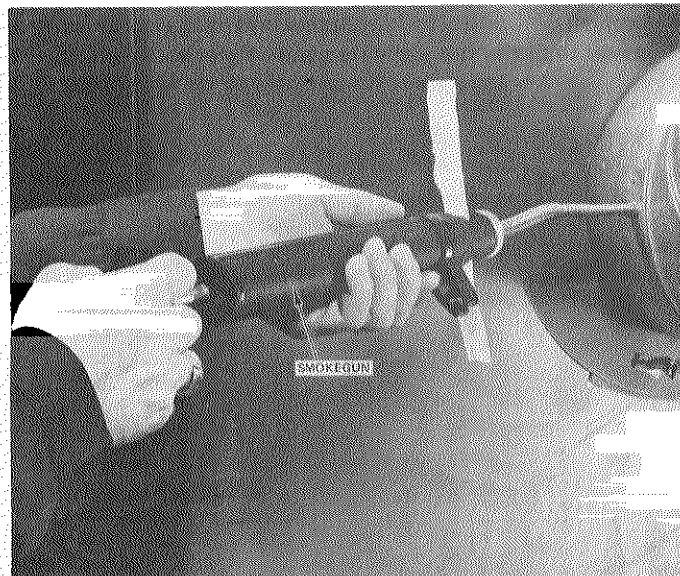

FIGURE 25
- 6 - Take a smoke reading in the same sampling hole used for the CO₂ reading. Refer to Figure 25. Use a standard smoke tester such as the Bacharach true spot tester. The smoke reading at 8 to 10 percent CO₂ will generally be a zero to No. 1 spot. In no case should the smoke reading be